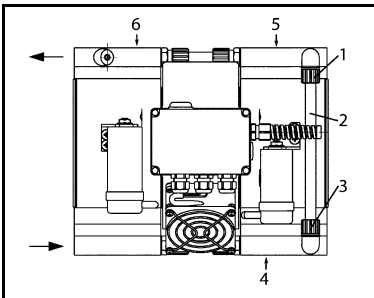
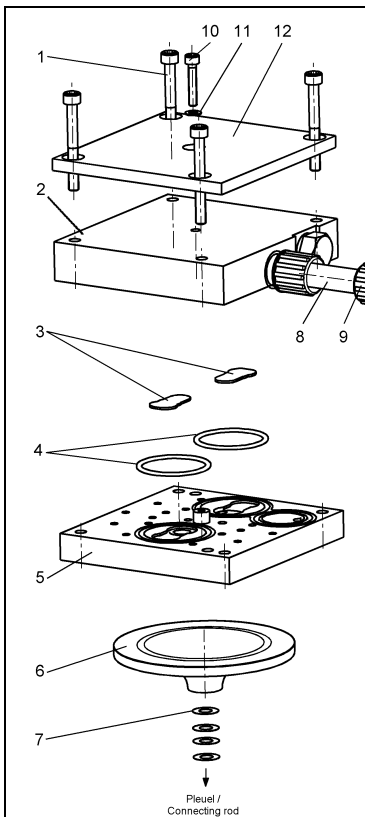

Fig. 25: Pneumatic connection between pump heads 2 and 3
Fig. 26: Replacing diaphragm and valve plates (3. and 4. pump head)
1. Place the intermediate plate (6) with valve plates (3), O-rings (4) and O-ring (8) on the adapter (9) in accordance with the felt-tip pen marking.
2. Place the head plate (2) on the intermediate plate (6) in accordance with the felt-tip pen marking. In doing so, pull the pneumatic connections (13) onto the two screw fittings (11) in the head plate. Do not yet tighten the union nuts (12).
3. Place the top plate (16) on the head plate (2).
4. Make sure that the adapter (9), intermediate plate (6), head plate (2) and top plate (16) are flush with each other.
5. Tighten the four screws (1) diagonally hand-tight.
6. Tighten the screw (14) hand-tight.
**i** Second pump head: See position (4) in Fig. 25.
Additional step: At the pneumatic connection between pump heads 2 and 3 (2, Fig. 25) use pliers to turn union nuts (1) and (3) counterclockwise, thereby loosening them.
1. At the pneumatic connections (2, Fig. 25) between the second (4) and third (5) pump head: Use pliers to loosen union nuts (1) and (3) by turning them counterclockwise.
2. At the third pump head (5, Fig. 25) mark the position of top plate (12, Fig. 26), head plate (2), intermediate plate (5) and pump housing relative to each other by a drawing line with a felt-tip pen. This helps to ensure proper assembly.
3. At the third pump head unscrew the four screws (1, Fig. 26) and screw (10); remove the top plate (12) head plate (2). Intermediate plate (5) is visible.
4. Take off intermediate plate (5) from pump housing.
5. Lay the two new O-rings (4, Fig. 26) in the seats of intermediate plate (5).
1. Place the intermediate plate (5) with valve plates (3) and O-rings (4) on the pump housing in accordance with the felt-tip pen marking.
2. Place the head plate (2) on the intermediate plate (5) in accordance with the felt-tip pen marking. In doing so, pull the pneumatic connections (2, Fig. 25) onto the two screw fittings in the head plate of the second pump head (4) and the third pump head (5). Do not yet tighten the union nuts (1) and (3).
3. Place the top plate (12, Fig. 26) on the head plate (2).
4. Make sure that the pump housing, intermediate plate (5), head plate (2) and top plate (12) are flush with each other.
6. Tighten the screw (10) hand-tight.
7. Use pliers to securely tighten (turn in clockwise direction) the two union nuts (1, Fig. 25) and (3) at the pneumatic connection between pump heads 2 and 3.
**i** Fourth pump head: See position (6) in Fig. 25.
Then use pliers to securely tighten (turn in clockwise direction) the union nuts (9, Fig. 26) at the two pneumatic connections (8) between pump heads 3 and 4.